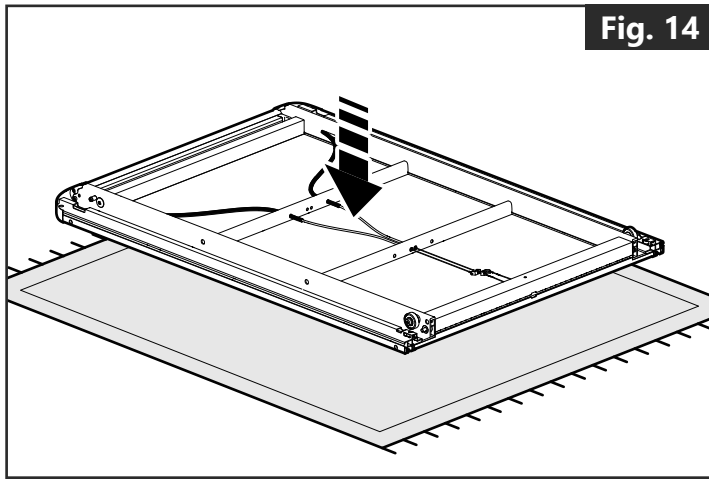

Fig. 14
- Place the deck upside down on a protective surface. **(Fig. 14)**